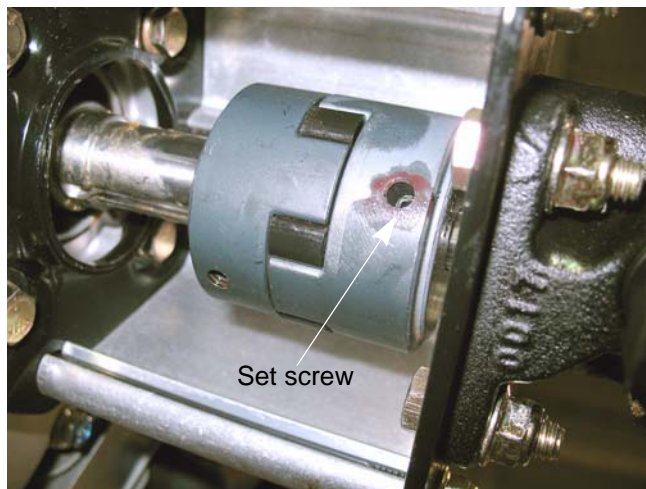

Figure 2.8
2. Remove the set screw from the pump coupler half. See Figure 2.8.